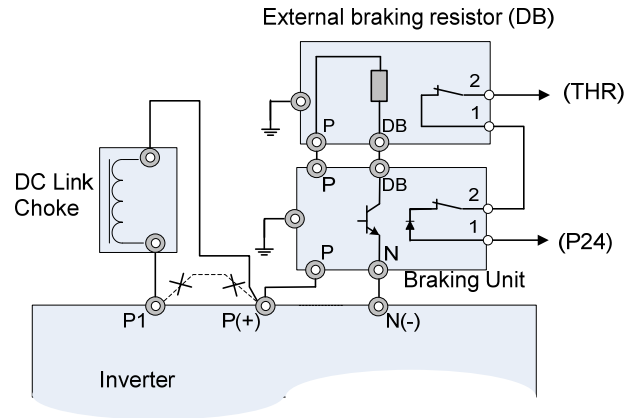

Fig. 2-3-5 Connection (15HP or more)
6. DC link circuit terminals (P (+) and N (-)) (Fig.2-3-5). The EQ5 inverter of 15HP/CT, 20HP/VT or more does not contain a drive circuit for the braking resistor. To improve braking performance, an optional external braking unit and external braking resistor must be installed.